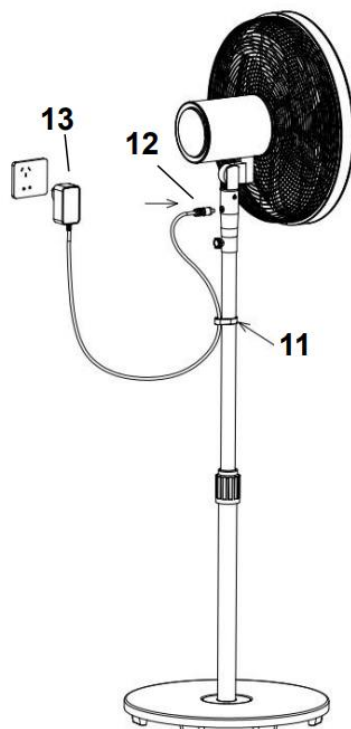

Fig. 6
- Insert the adapter connector (12) into the pedestal fan socket. Fig.6
- Tip the adapter cable onto the height adjustment pipe with the power cord clip (11). Fig.6
- Insert the adapter (13) into the mains socket outlet and ensure it is fully plugged in. Fig.6